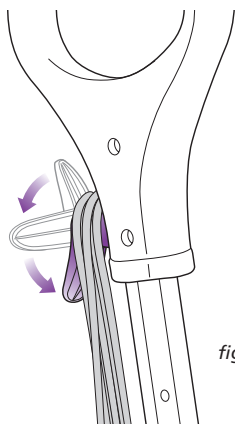

fig. 7
- 1 Pull and twist the quick release cord holder to unwrap the power cord completely. Plug into a 120-volt electrical outlet. (**fig. 7**)